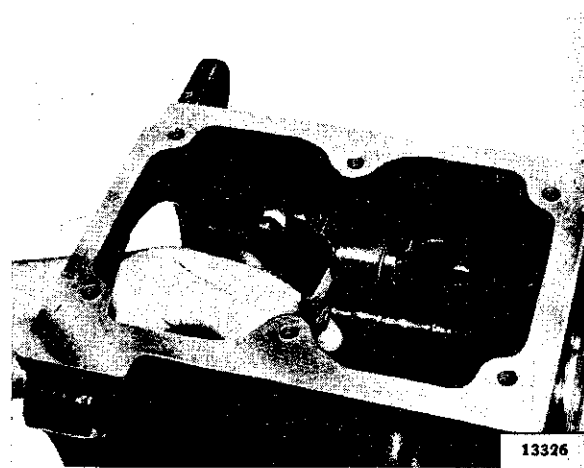

FIG. J-11—INTERLOCK SLEEVE CLEARANCE
a. The interlock sleeve and poppet assembly should be carefully checked. Should the assembly be too long, it will be impossible to shift gears and if it is too short, it will fail to function as an interlock to prevent shifting into two gears at one time. Locate the intermediate-and-high control arm for second gear position. Use a feeler gauge to measure the clearance between the ends of the interlock sleeve and the notched surface of each shift lever as shown in Fig. J-11.